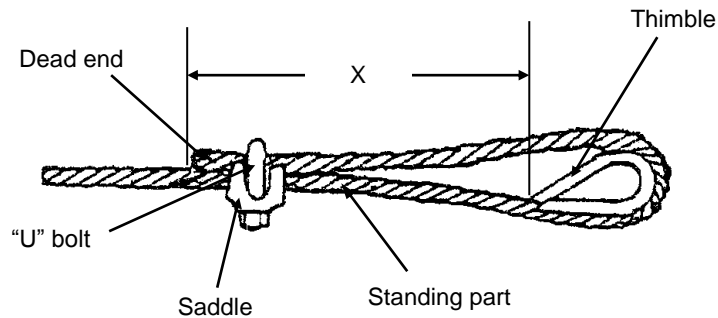

FIG 43.
A. Turn the rope back over the thimble. (Fig 43) The distance (X) from the thimble to the point of the dead end of the rope must be -
The U-bolt must be fitted over the dead end. Never fit the U-bolt over the live end because then the joint will slip and the U-bolt will tend to pinch the rope. Refer back to Fig 43.